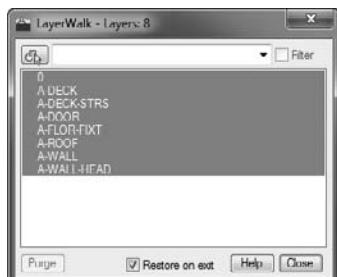

FIGURE 6.48 The LayerWalk dialog box
6. Click the LayerWalk button in the extended Layers panel to open the LayerWalk dialog box, shown in Figure 6.48.